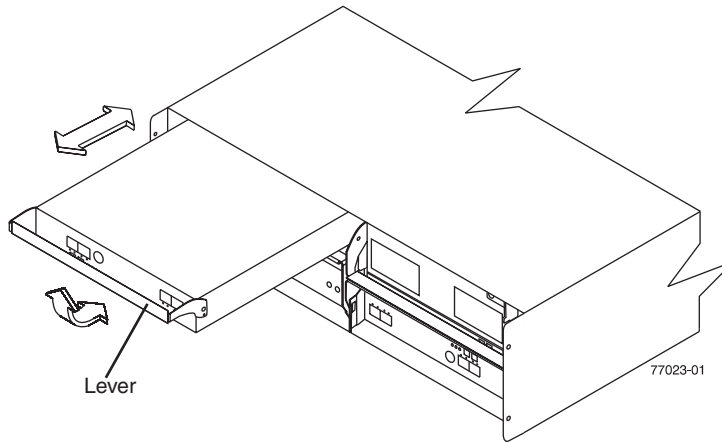

Figure 14. Removing and replacing an Environmental Services Monitor (ESM)
2. Slowly pull the lever away from the chassis to remove the ESM from the bay, as shown in Figure 14 on page 30.